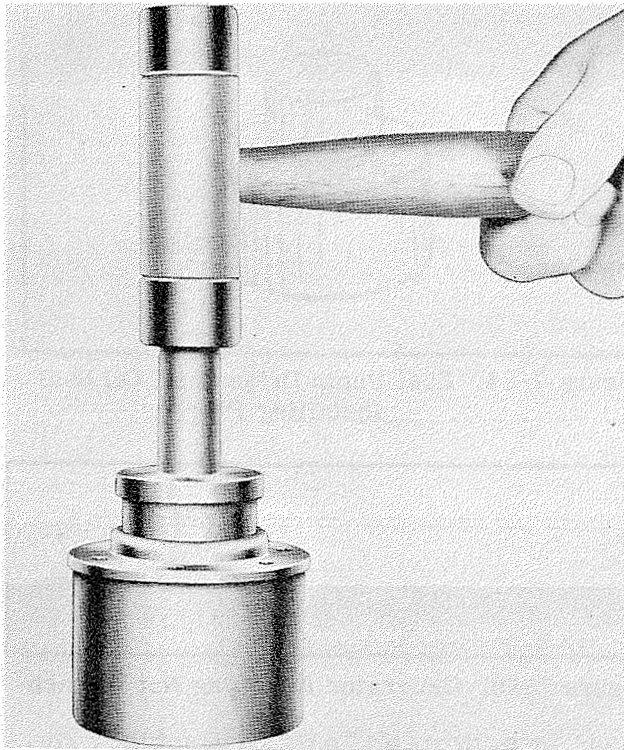

Figure 7-86. Removing Magneto Drive Gear Oil Seal from Collar
- a. When it is necessary to replace the magneto, upper left, upper right, or lower center accessory drive gear oil seal in the collar, use plug and base 804854 to remove the oil seal and to install the new seal. See figure 7-86.